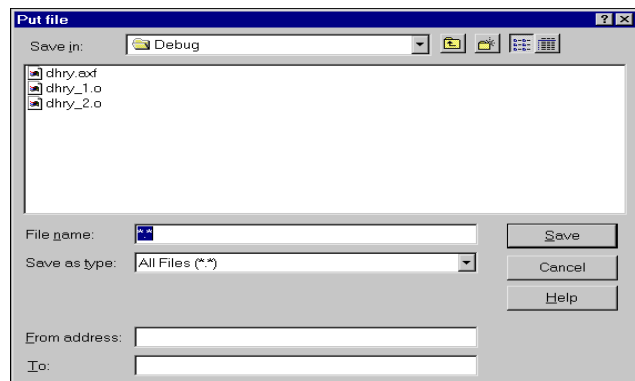

Figure 3-10 Put File dialog
1. Select **Put File** from the **File** menu to display the Put file dialog (Figure 3-10).